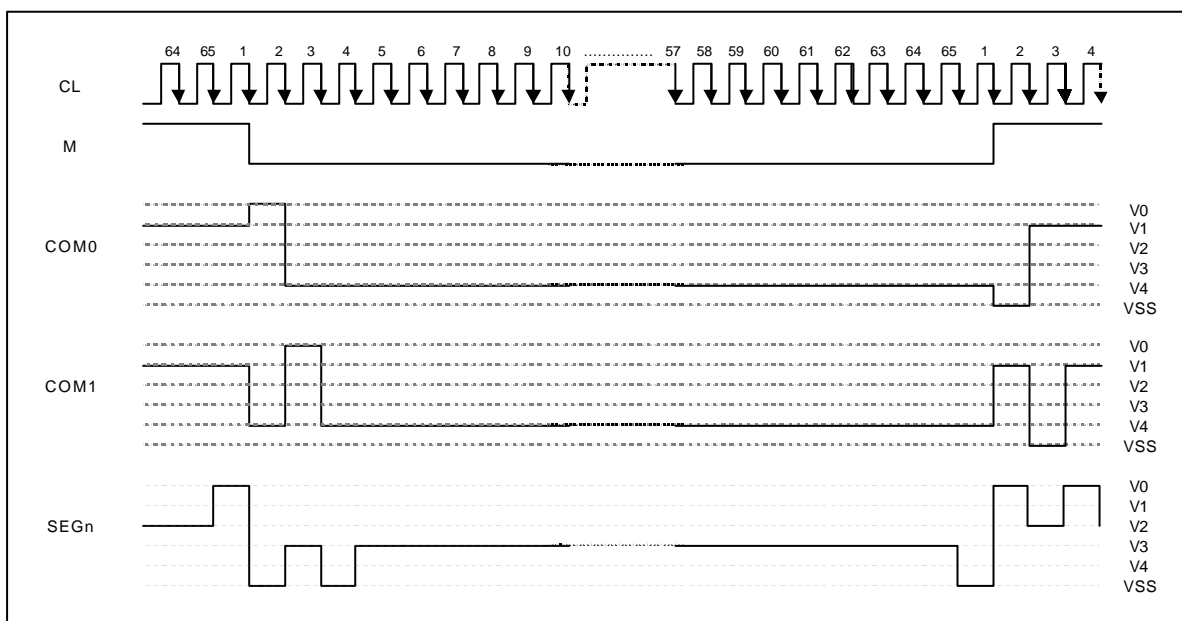

Figure 6-7. 2-frame AC driving waveform (Duty ratio = 1/65)
This circuit generates timing signals to be used for displaying LCD. The display clock (CL) is generated by oscillation clock and CL generates the clock for the line counter and the signal for the display data latch. The line address of DDRAM is generated in synchronization with CL. The 132-bit display data is latched in the display data latch circuit synchronized with CL. Reading to the display data liquid crystal driver circuit is completely independent of access to the DDRAM by the MPU. The display timing generator circuit generates an LCD AC signal (M) which enables the LCD driver to make a AC drive waveform, and also generates an internal common timing signal and start signal to the common driver. Driving 2-frame AC driver waveform and internal timing signal are shown in figure 6-7. When HM11S120 is used multiple-chip configuration, the slave chip requires the M, CL and DISP signals from the master. Table 6-4 shows the M, CL, and DISP status.